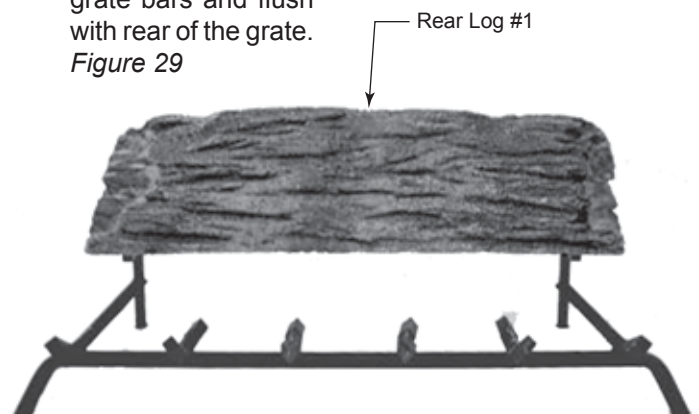

Figure 29 -
2. Center rear log #1 on grate bars and flush with rear of the grate. *Figure 29*